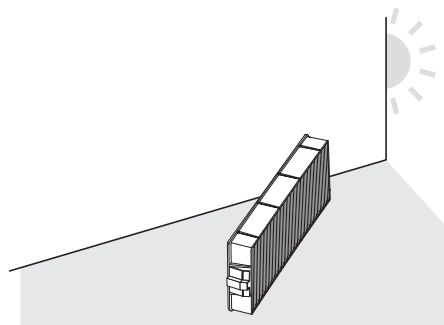

Fig. 2
- Pull out the main filter unit from the tabs of the projector while slightly pressing the knob at the center of the frame at the connecting terminal side (rear side) inward as shown by the arrow, and remove the main filter unit. (Fig. 2)